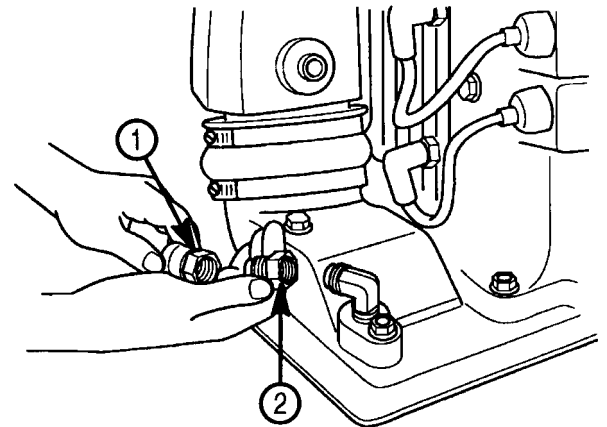

Figure 3. Installing Dealer Kit
To use this kit, disconnect the inlet water line (1) at rear starboard corner of pump cover. See figure 3.